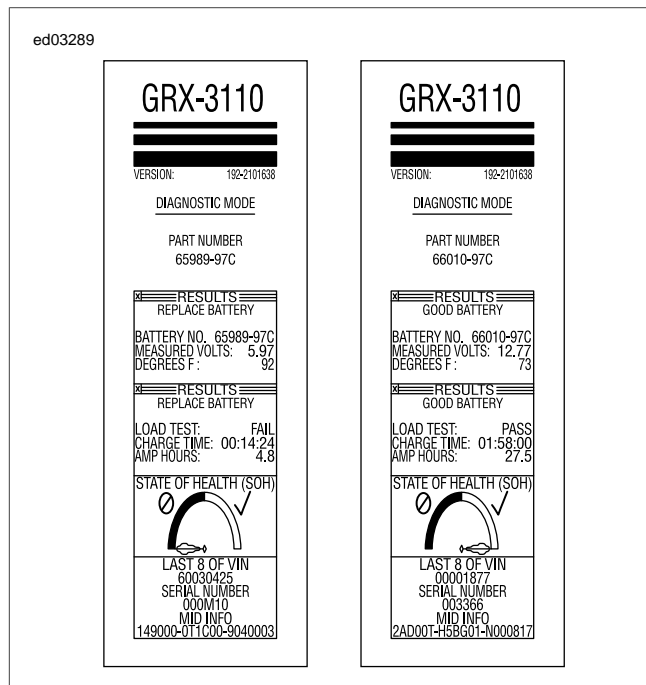

Figure 3-1. Battery Test Results Printout (Typical)
4. Test results will include a decision on battery condition and measured state of charge. See Figure 3-1. The GRX printer will provide a printout including test results: